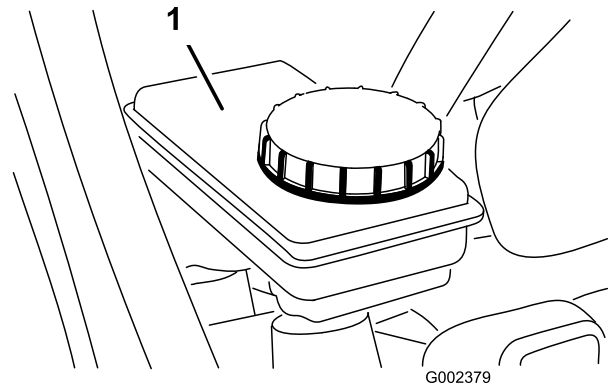

Figure 19
3. Fluid level should be up to FULL line on reservoir (Figure 19).